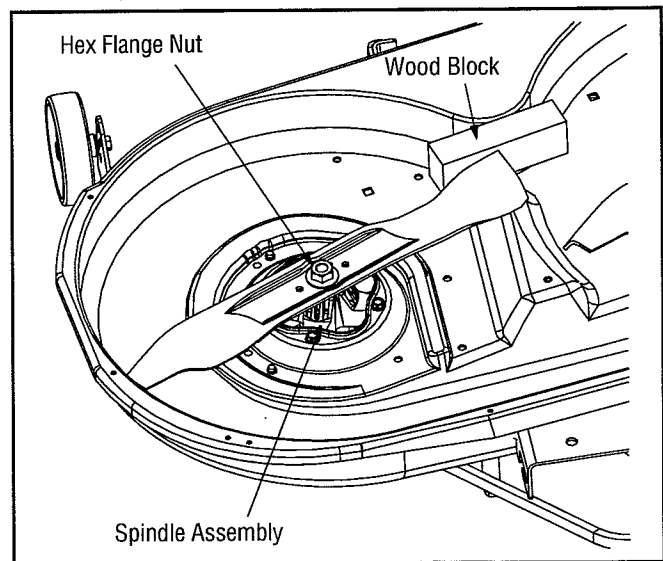

Figure 21
- Place a block of wood between the center deck housing baffle and the cutting blade to act as a stabilizer. See Figure 21.
- Remove the hex flange nut that secures the blade to the spindle assembly by turning it counter-clockwise. See Figure 21.